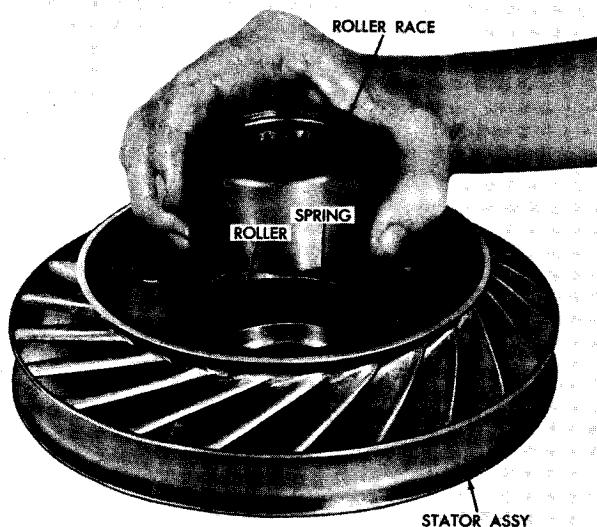

Fig. IX-9 Installing freewheel roller race
(2) When all of the springs and rollers have been installed, press them, with the fingers, into the stator cam pockets to make room for the freewheel roller race.
(3) Install the freewheel roller race, counterbored side facing away from the stator, (fig. IX-9) into the stator and cam assembly. Rotate the freewheel roller race in a clockwise direction while installing it. When it is fully seated, twist it firmly in the opposite direction to lock it into the stator and cam assembly. Place the stator and cam assembly so that the freewheel roller race is upward until installation.